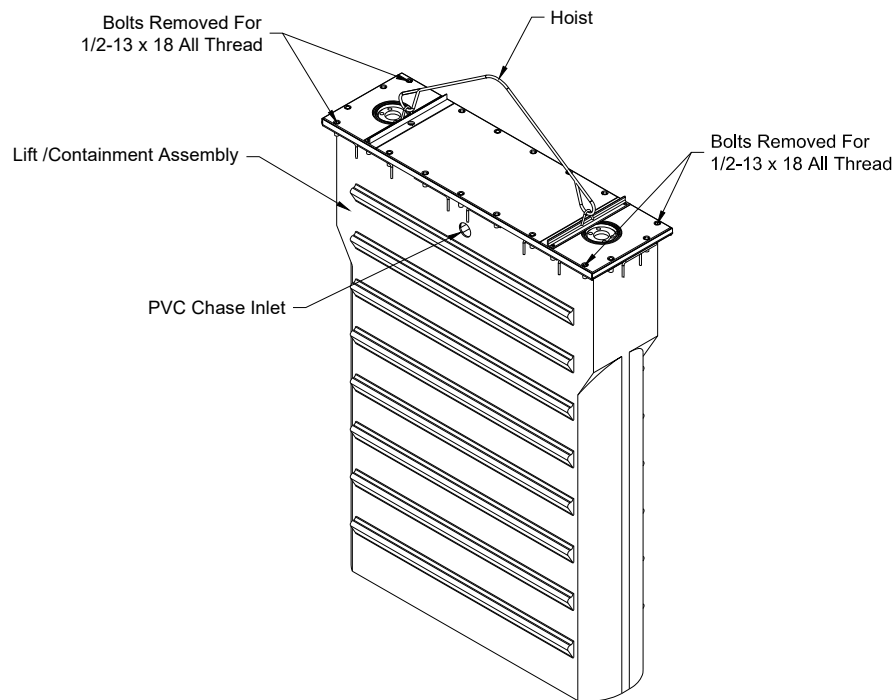

Fig. 3
1. For best balance of lift / containment assembly while lowering into excavation, sling using the shipping straps provided. See Figure 3. DO NOT remove or loosen any of the bearing assembly bolts at this time.
3. Remove the outer two bolts from each end of the center cover plate and replace with 1/2-13 x 18 threaded rods. Attach two 6 x 6 timbers using 1/2-13 nuts and washers, to support the lift / containment assembly on the existing floor or forms. Remove the shipping straps and replace the bolts. Torque the bolts to 60 ft-lbs. Bend concrete tie anchors out 90 degrees and down 45 degrees. Refer to **Figures 3 and 4.**